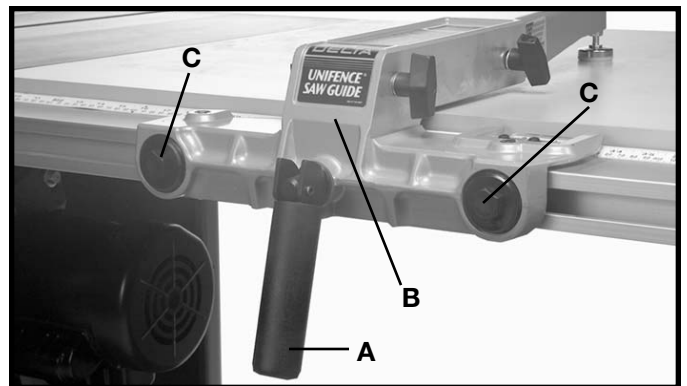
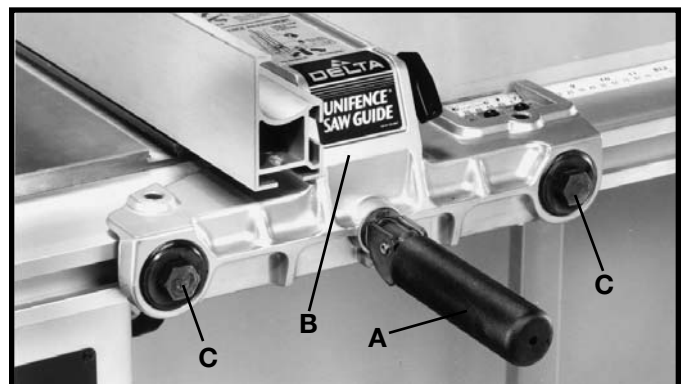

Fig. 52
Fig. 53
When the fence locking handle (A) is pushed to the down position, as shown in Fig. 52, the fence body (B) should be completely clamped to the guide rail. If the fence body (B) is not completely clamped to the guide rail when the handle (A) is in the position shown in Fig. 52, lift up on locking handle (A) Fig. 53, and slightly tighten two adjustment plugs (C) using the arbor wrench or 7/8" wrench. Adjustment plugs (C) should be tightened an equal amount. Check to see if the fence body (B) is completely fastened to the rail by pushing down on locking lever (A). Adjust further if necessary. **IMPORTANT: AFTER ADJUSTING THE CLAMPING ACTION OF THE FENCE LOCKING HANDLE, CHECK TO SEE IF THE FENCE IS PARALLEL TO THE MITER GAGE SLOT AND ADJUST IF NECESSARY.**